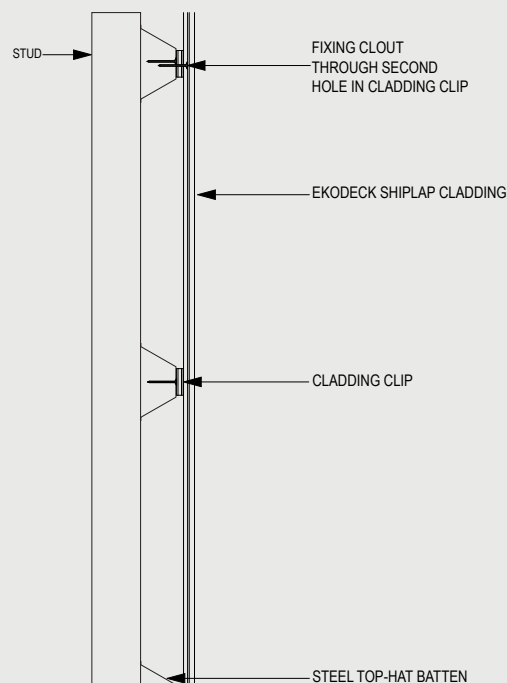
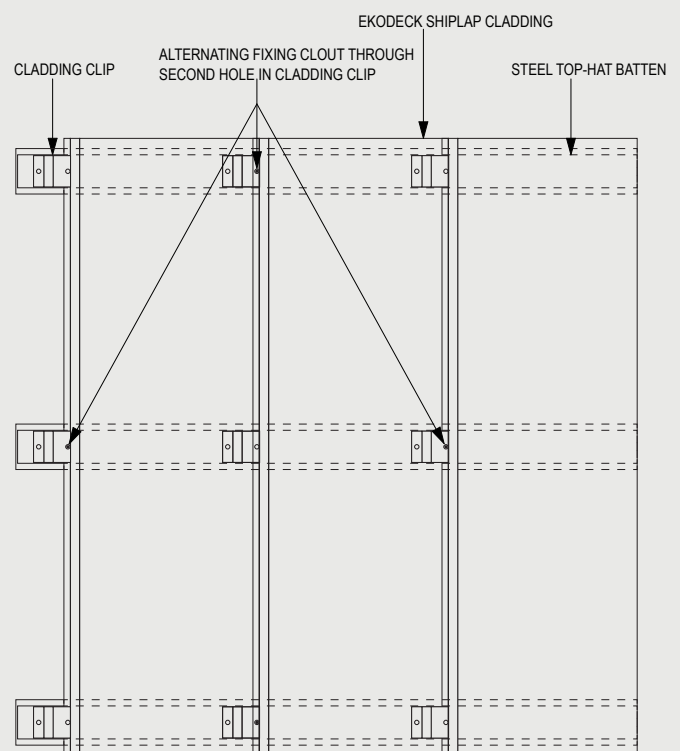

Fig. 3
Fig. 4
- At every second batten, predrill the cladding board and secure a clout through the secondary hole in the clip (see Fig. 3). Alternate battens as you go (see Fig. 4).